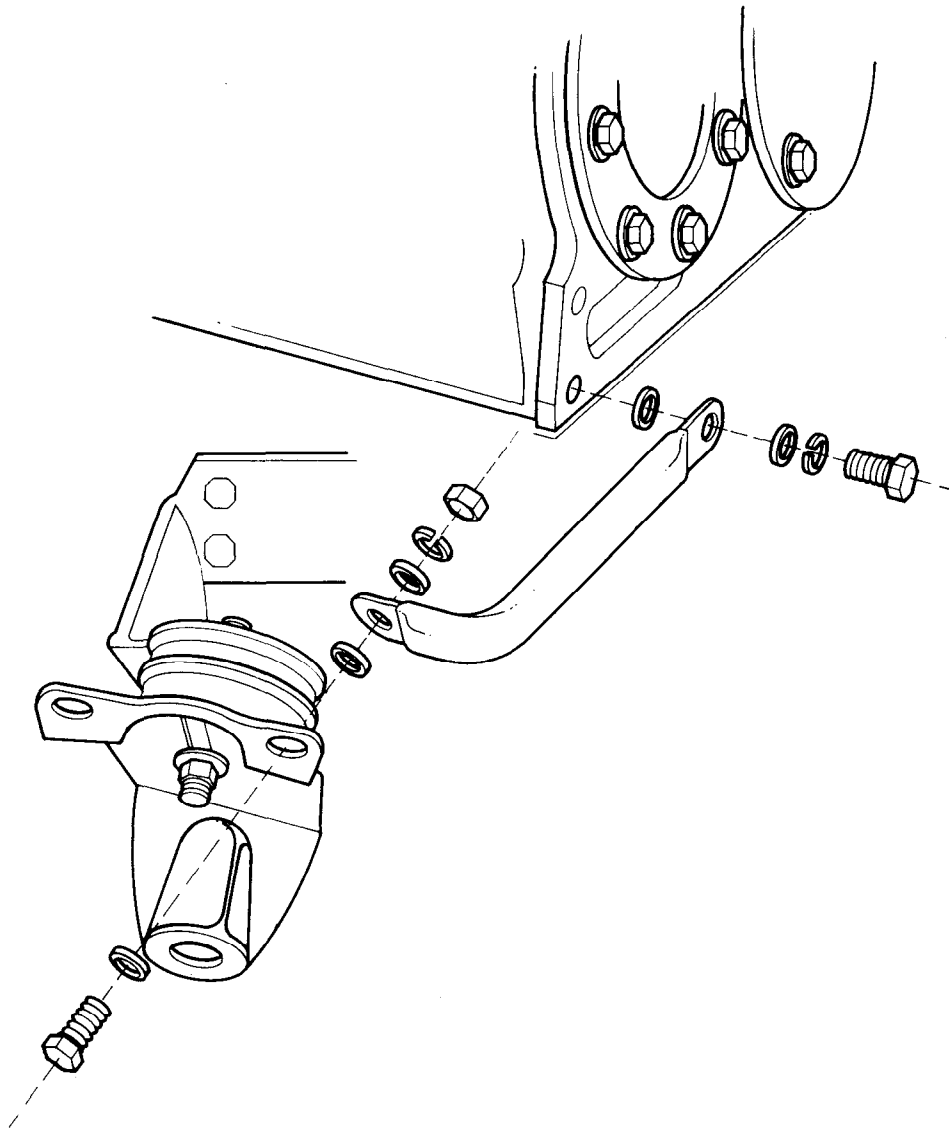

FIG 1 - EARTH STRAP MOUNTING
- a. Using the existing bolt on the 4x4 Landrover, fit one end of the earth strap (Item 1 from Table 1) to the top rear bolt of the transmission mount as shown in Fig 1.
- b. On the 6x6 Landrover, remove the top rear bolt of transmission mount and discard. Replace with item 5 from Table 1 and fit one end of the earth strap using items 1 and 4 as shown in Fig 1.
- c. Fit the other end of the lead to the rear of the transmission using items 2, 3 and 4 from Table 1, as shown in Fig 1.